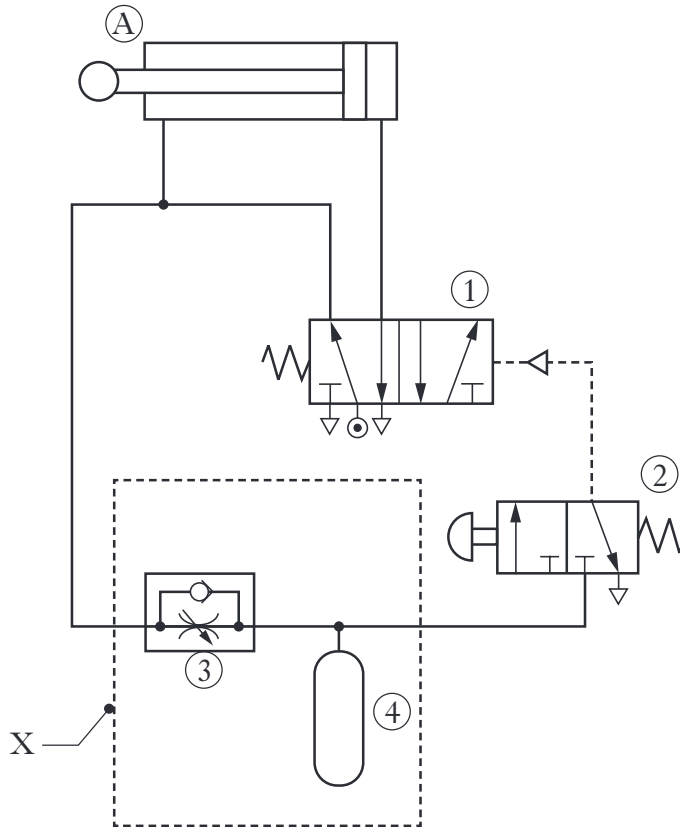

Figure Q4(a)
4. A pneumatic circuit used to crush material in a recycling system is shown in Figure Q4(a).